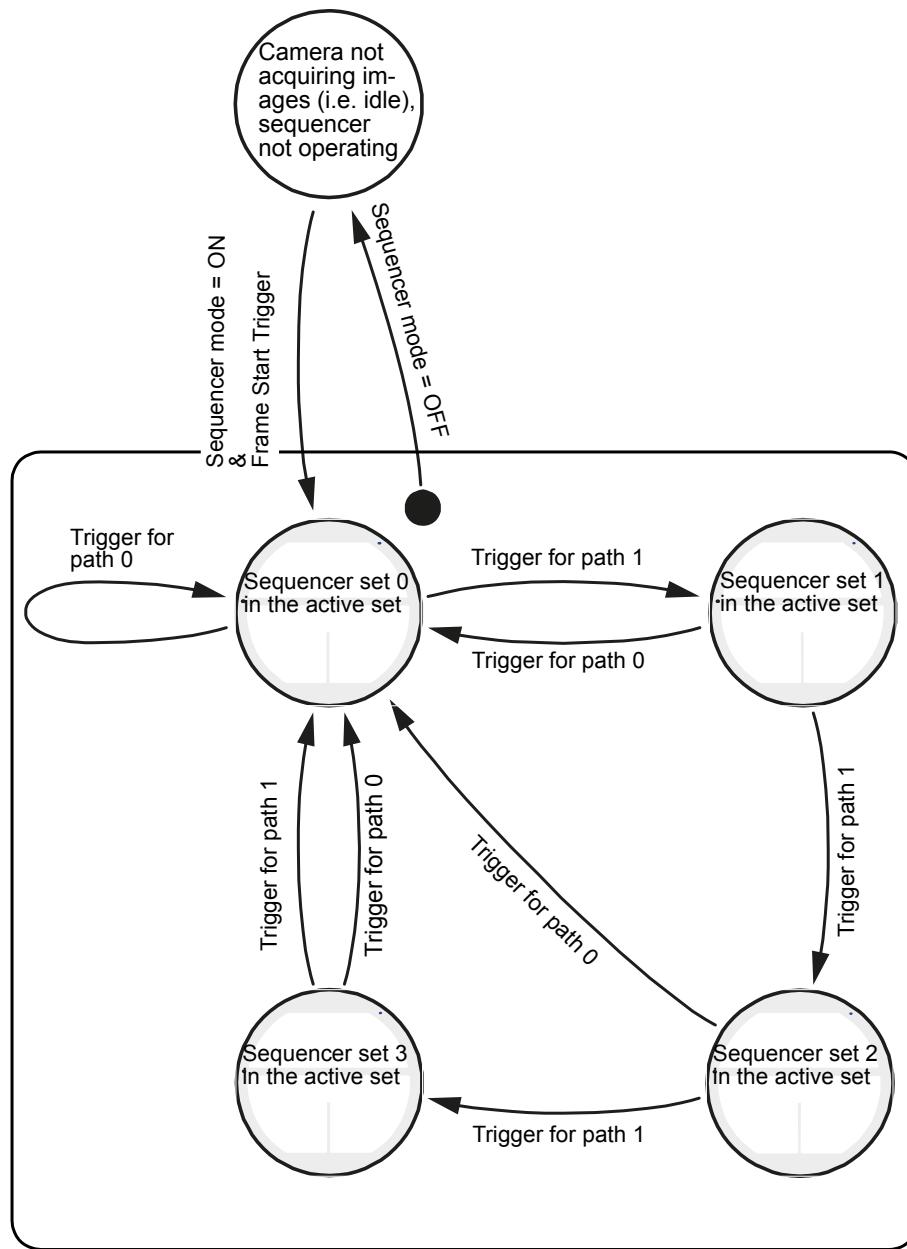

Fig. 88: State Diagram for the "Sequencer Mode" (Start and Operation; Four Sequencer Sets as an Example)
- a general overview employing a state diagram (Figure 88), and
In the state diagram (Figure 88) a total of four sequencer sets is considered. The diagram illustrates sequencer start, sequencer operation in "sequencer mode", and sequencer stop. Operation in "sequencer configuration mode" (see Section 7.7.3 on page 224) is not illustrated.